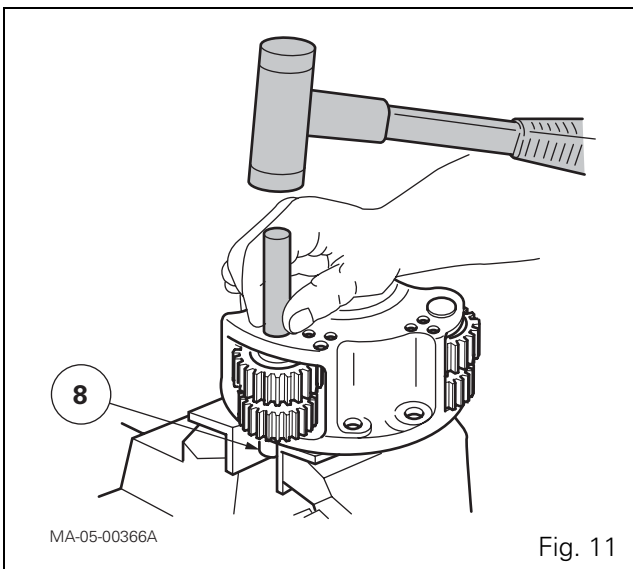

Fig. 11
- 20.** Remove the input sun gear (7), visually identifying the direction of the lubricating grooves.
- 21.** Drive out the pins (8) using a drift and a hammer (Fig. 11).